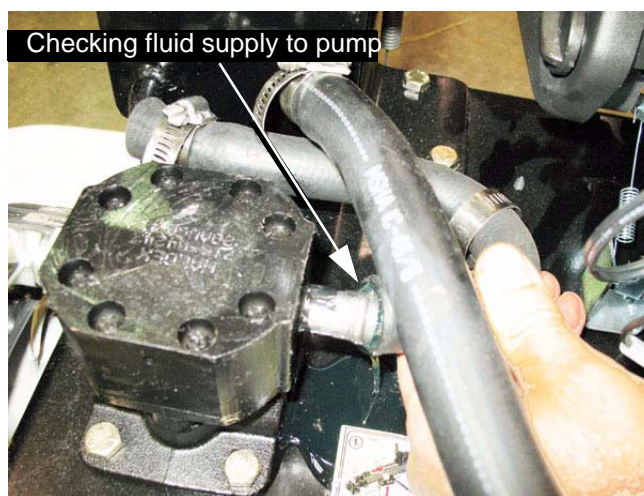

Figure 3.11
5.5. Fluid not getting to the pump See Figure 3.11.